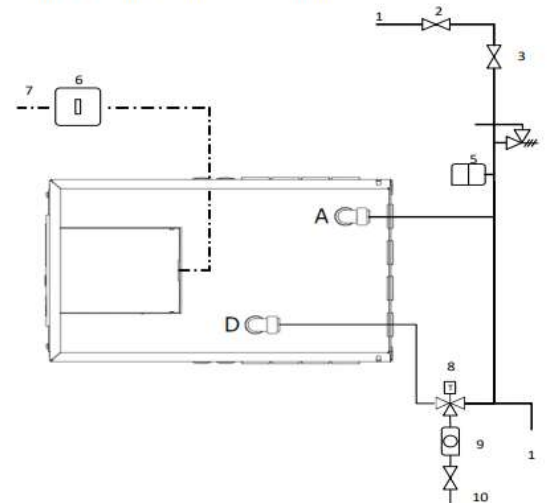

Figure 12.1: Example wiring option 1 schematic (see Figure 3 for piping and electrical options available)
- Run and connect 3 Core mains power supply cable (16A, minimum 2.5mm² CSA) from the local 2-pole isolator to the Heat Battery controller (Figures 12.1 and 12.2).
- Prepare, if necessary (Figure 10) and wire the mains power cable in the following terminals (Figure 12.1):